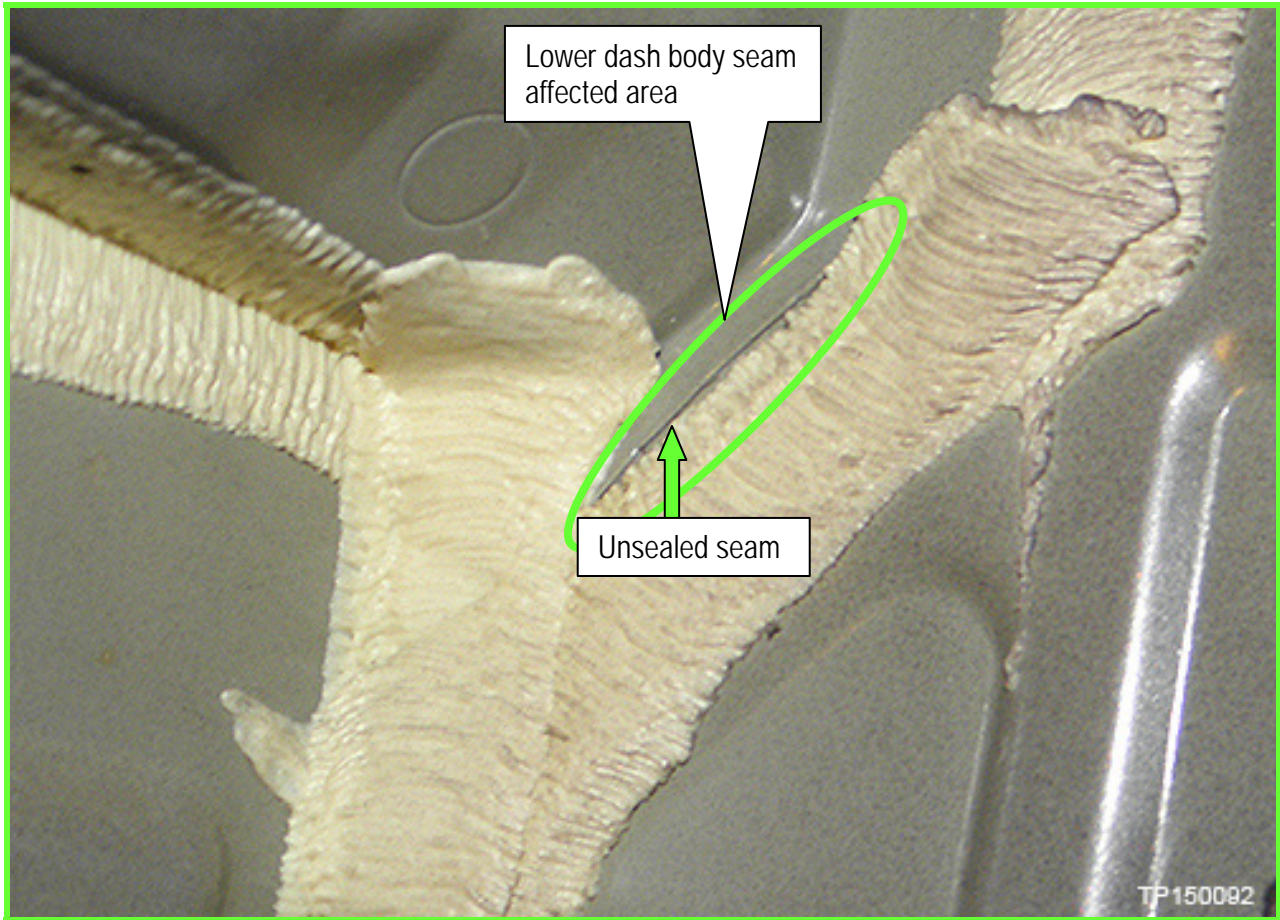
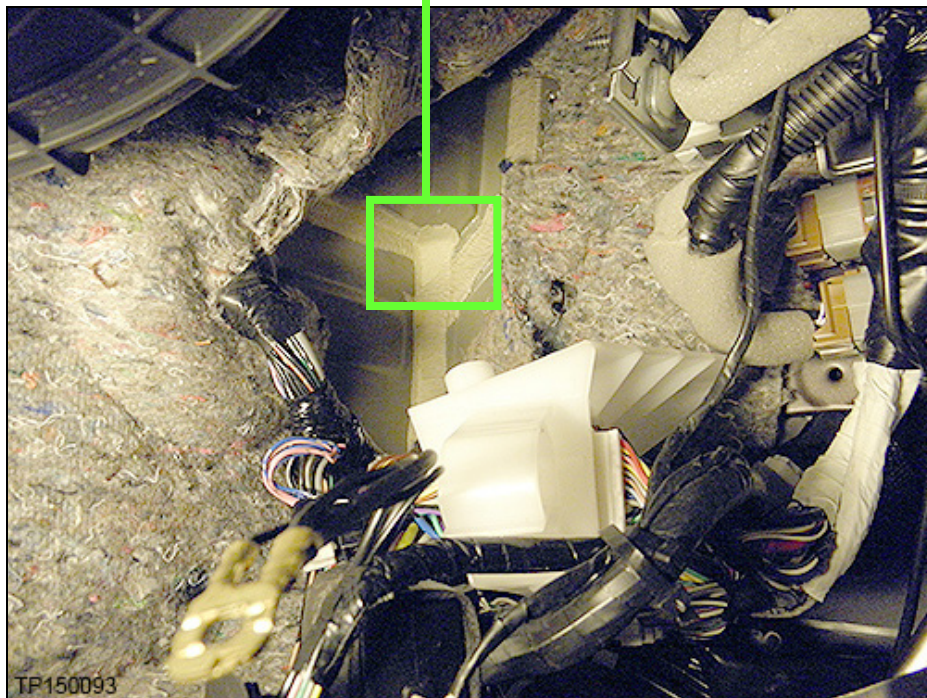

Figure 8
Figure 9
12. Locate the lower dash body seam affected area, refer to Figure 8 and Figure 9.